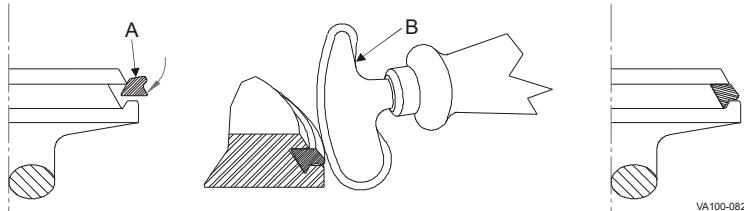
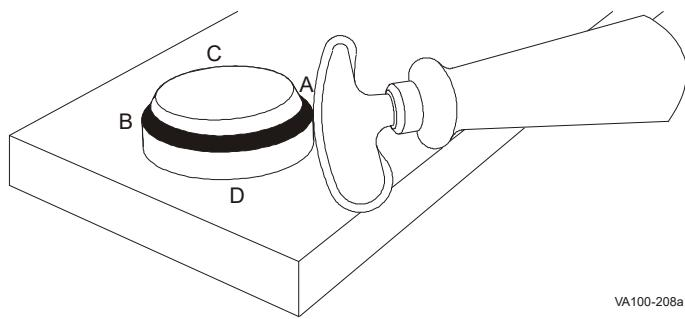

Figure 30: Installing New Tri Ring Seat
Figure 31: Pressing Tri Ring Into Plug
3. Lubricate the new Tri Ring (Figure 30, item A) with acceptable cleansing solution or lubricant.
5. Start the Tri Ring as shown in Figure 30.
6. Using the installation tool, part number 102797+ (Figure 30, item B), press the Tri Ring into the plug at locations A, B, C, and D (Figure 31). If this tool is not available, a dull, flat tool can be used. DO NOT use a knife or any other sharp item that will tear or cut the Tri Ring.
8. When properly installed, the Tri Ring seat lip will protrude slightly from the seat edge as shown in Figure 30.